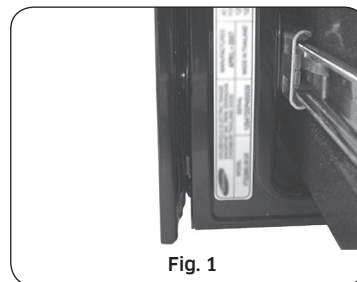
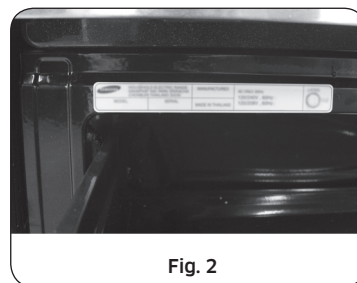

Fig. 1
Fig. 2
1. The counter top around the cut-out should be flat and leveled (See hatched area on Fig. 1).
2. Before installing the unit, measure the heights of the two cabinet sides (C1~C4), front and back (See Fig. 1) from the floor to the top of the counter.
This appliance must be supplied with the proper voltage and frequency, and connected to an individual properly grounded branch circuit, protected by a circuit breaker or fuse having amperage as specified on the rating plate. The rating plate is located above the drawer on the oven frame. **(Fig. 1 or Fig. 2)**
1. Prepare the conduit cord shown in Figure 1.
2. Install the conduit cord as shown in Figure 2.